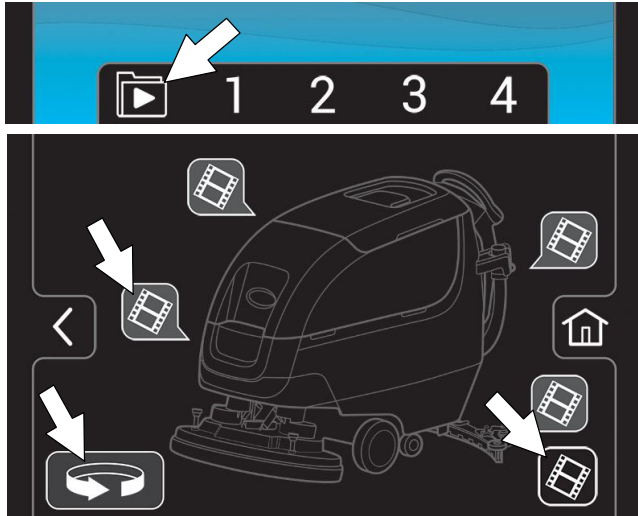

FIG. 53
Press the video tutorial button to access the video tutorial screen (Figure 53). It includes videos on how to perform specific operation and maintenance procedures. Press the video buttons to start video. Press the rotate button for additional videos. The lower right video button provides a list of additional tutorial videos.
**Video help** - Use to view specific operation and maintenance procedures. See Figure 53.